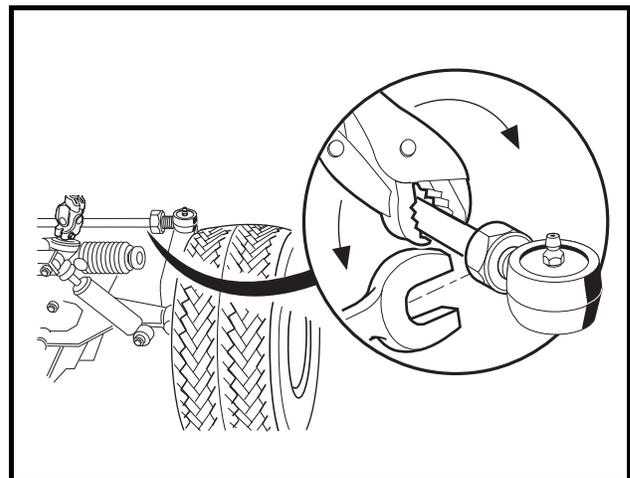

Figure 7-19 Adjust Toe-In
6. If adjustment is necessary, loosen the jam nut on each tie rod ball joint and rotate the tie rod to increase or decrease toe-in (**Figure 7-19, Page 7-15**). **See following CAUTION.**